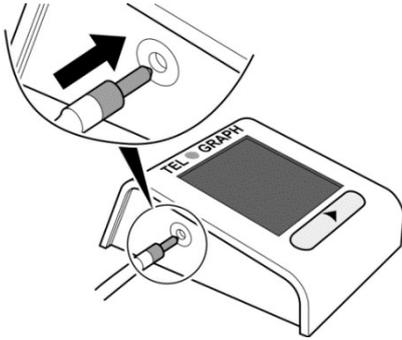

Fig. 7: Insert air hose
- 1) Insert the air hose connection into the air hose socket on the left side of the blood pressure monitor and place the blood pressure monitor on the table (see fig. 7).